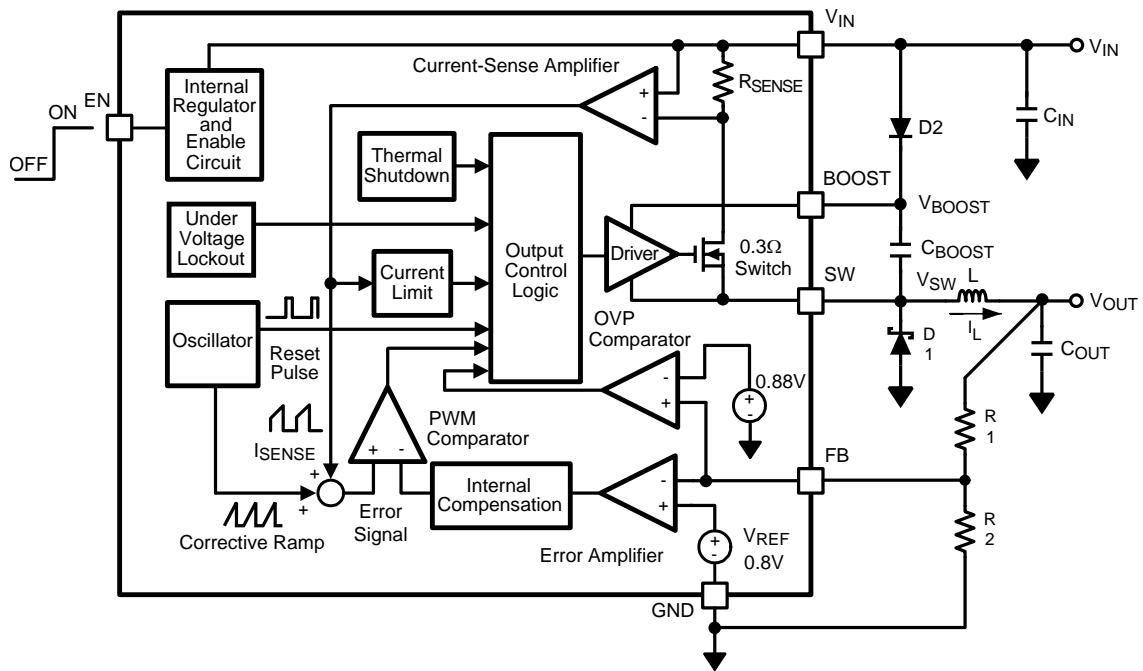
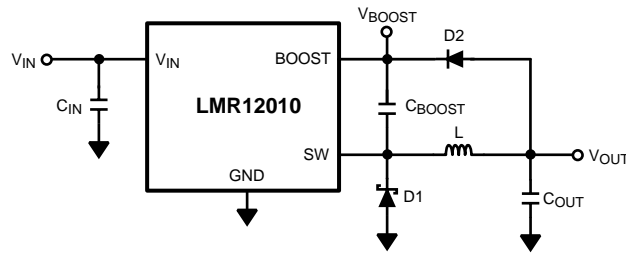

Figure 20.
**Figure 21. LMR12010 Waveforms of SW Pin Voltage and Inductor Current**
The following operating description of the LMR12010 will refer to the Simplified Block Diagram (Figure 20) and to the waveforms in Figure 21. The LMR12010 supplies a regulated output voltage by switching the internal NMOS control switch at constant frequency and variable duty cycle. A switching cycle begins at the falling edge of the reset pulse generated by the internal oscillator. When this pulse goes low, the output control logic turns on the internal NMOS control switch. During this on-time, the SW pin voltage ( $V_{SW}$ ) swings up to approximately  $V_{IN}$ , and the inductor current ( $I_L$ ) increases with a linear slope.  $I_L$  is measured by the current-sense amplifier, which generates an output proportional to the switch current. The sense signal is summed with the regulator's corrective ramp and compared to the error amplifier's output, which is proportional to the difference between the feedback voltage and  $V_{REF}$ . When the PWM comparator output goes high, the output switch turns off until the next switching cycle begins. During the switch off-time, inductor current discharges through Schottky diode D1, which forces the SW pin to swing below ground by the forward voltage ( $V_D$ ) of the catch diode. The regulator loop adjusts the duty cycle (D) to maintain a constant output voltage.
In the Simplified Block Diagram of Figure 20, capacitor  $C_{BOOST}$  and diode D2 supply the gate-drive current for the NMOS switch. Capacitor  $C_{BOOST}$  is charged via diode D2 by  $V_{IN}$ . During a normal switching cycle, when the internal NMOS control switch is off ( $T_{OFF}$ ) (refer to Figure 21),  $V_{BOOST}$  equals  $V_{IN}$  minus the forward voltage of D2 ( $V_{FD2}$ ), during which the current in the inductor (L) forward biases the Schottky diode D1 ( $V_{FD1}$ ). Therefore the voltage stored across  $C_{BOOST}$  is